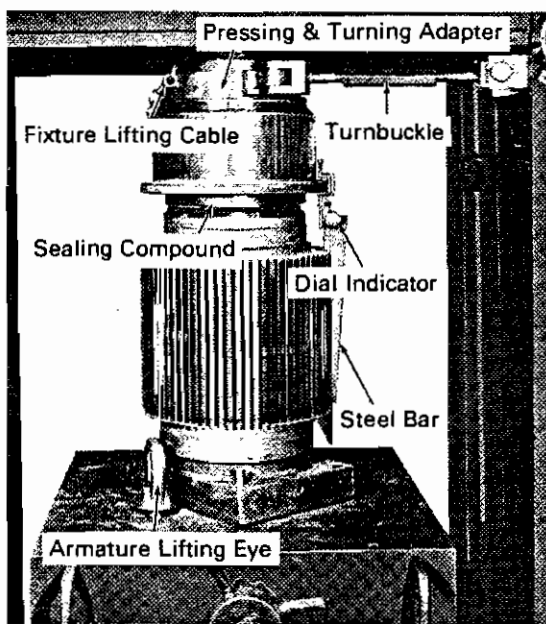

Fig. 24 - Final Pressing of Commutator to Core
11. If the commutator alignment is not within the 0.08 mm limit, a pressing and turning adapter must be placed on the core assembly while the assembly is still positioned on the press, Fig. 24.
Secure a dial indicator to the riser of the commutator as shown in Fig. 24. Place a steel bar in a slot of the core and adjust the indicator to make contact with the bar. Depress the indicator slightly and set the indicator pointer at zero. Place turnbuckle in position to rotate the commutator in the direction necessary to make the correction.